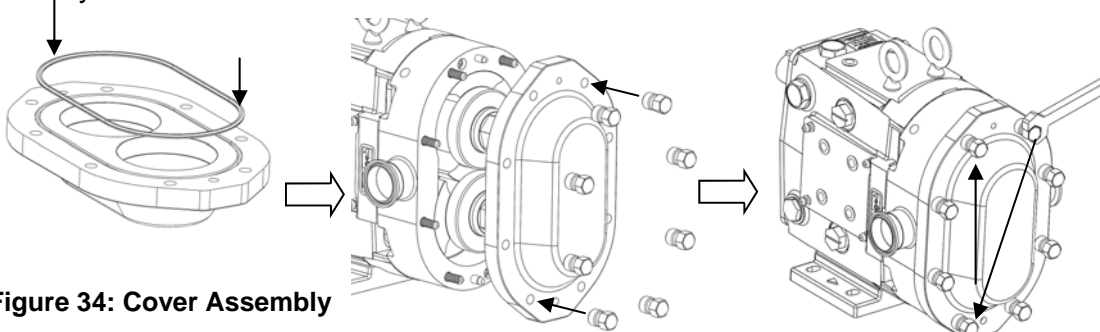

Figure 34: Cover Assembly
- 8) Install a new cover o-ring and slide the cover over the studs making sure that the dowels in the body are aligned with the correct dowel holes in the cover (Figure 34). Visually inspect to ensure that the cover o-ring remained in place. Turn the cover nuts (clockwise) by hand and fully tighten them using the appropriate wrench. Tighten the cover nuts in an opposing manner, as seen on Figure 34, so that the cover is evenly tightened to the body.